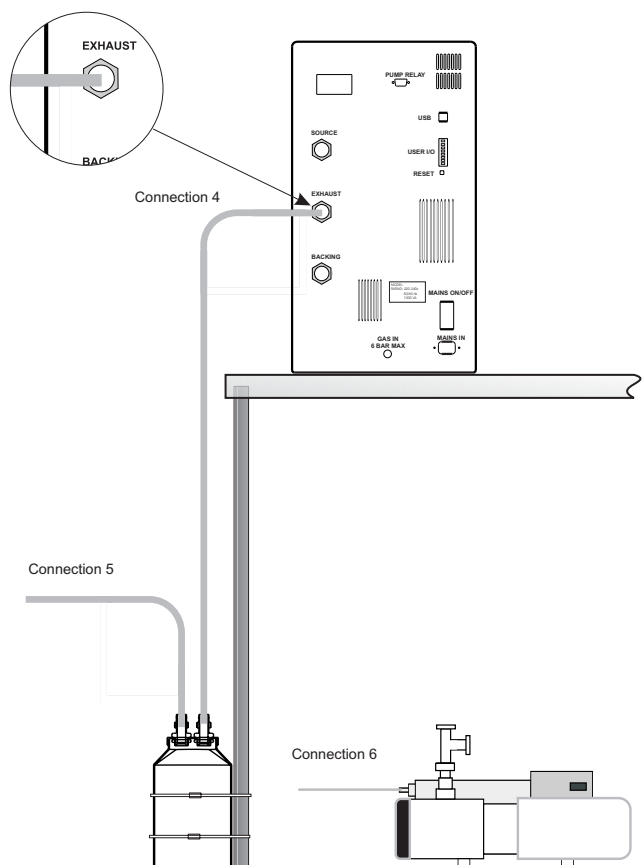

Figure 1-9. Connecting exhaust lines from the source and rotary pump—correct setup
The MSQ source exhaust consists of 3 m of $\frac{3}{4}$ " ID/26 mm OD tubing. This should be cut to length on site to fit the suitably positioned solvent trap (see Figures 1-9 and 1-10).
- ☐ Are the pipe runs as shown in Figure 1-9?
2. Set the pressure to 10 psi by pulling out the regulator adjuster on the auxiliary pressure regulator and then turning clockwise (see Figure 1-9).